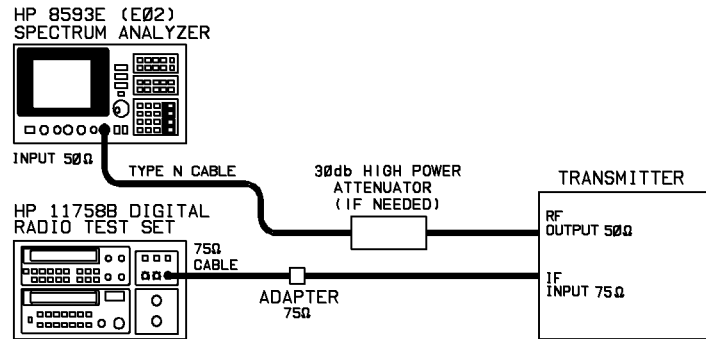

Figure 3-22. Predistortion Setup
1. Set up equipment as shown in the Figure 3-22.
Ensure that there is sufficient padding between the transmitter RF Output and the Spectrum Analyzer, so as not to damage the spectrum analyzer. The maximum power that should be connected to the INPUT connector on the spectrum analyzer is 30 dBm. Figure 3-22 shows the HP 8498A 30 dB High Power Attenuator connected between the radio output and the analyzer. If necessary use additional attenuators.